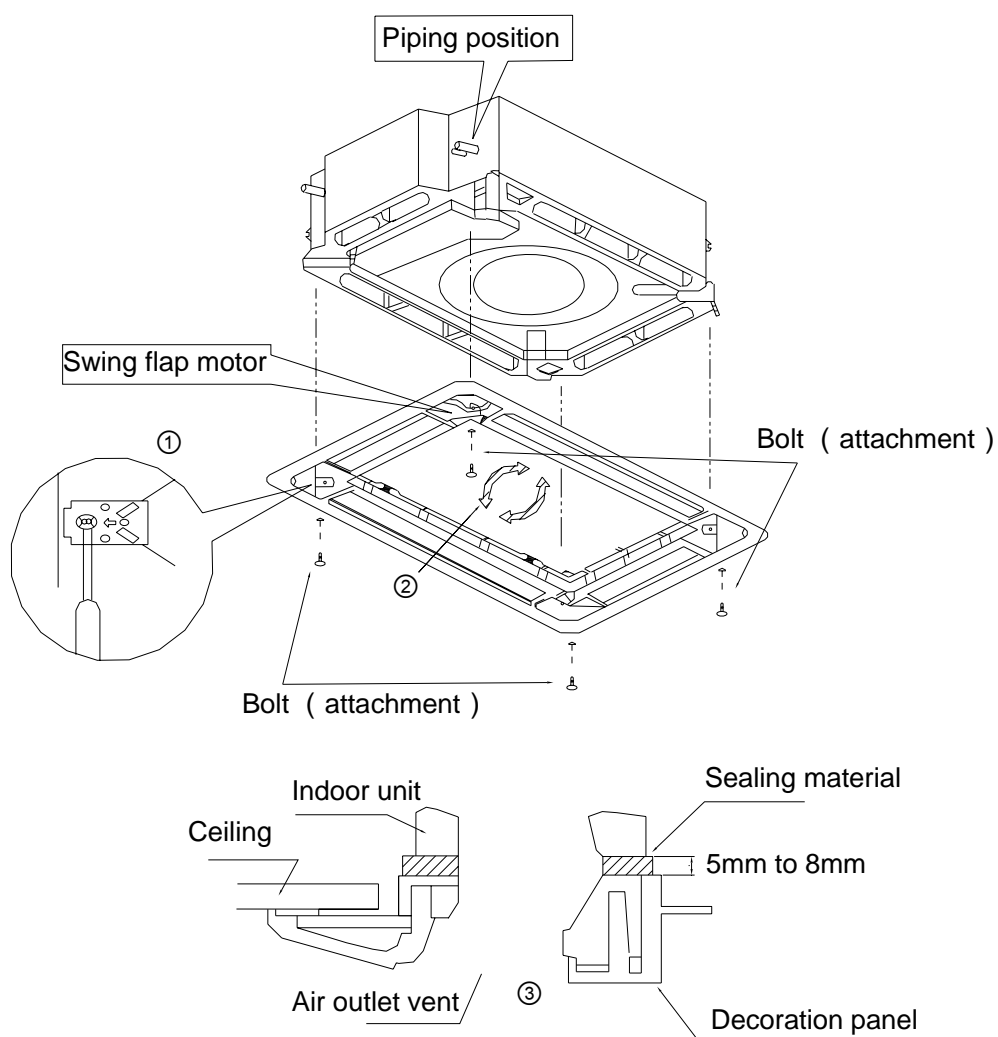

Fig 4
1. Set the panel to the indoor unit body by matching the position of the swing flap motor of the panel to the piping position of the panel to the piping position of the indoor unit as shown by fig.4.
- ① Screw the 4 hexagon head screws under the latches in about 15mm. (The panel would rise)
- ② Adjust the panel by turning it toward the direction pointed by the arrow as shown in fig.4, so that the adjust board connect the ceiling well.
- ③ Tighten the screws until the thickness of the sealing material between panel and indoor unit reduced to 5-8mm.